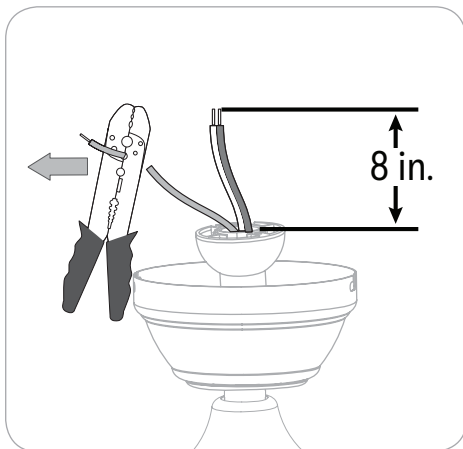

Figure 2.7
7. Depending on the length of downrod you use, you may want to cut the fan wires to simplify wiring. After pulling the wires all the way through the downrod, measure 8 inches of wire. Cut off the excess wire using wire cutters (not included). Then strip 1/2 inch of insulation from the end of each wire strand (Figure 2.7).